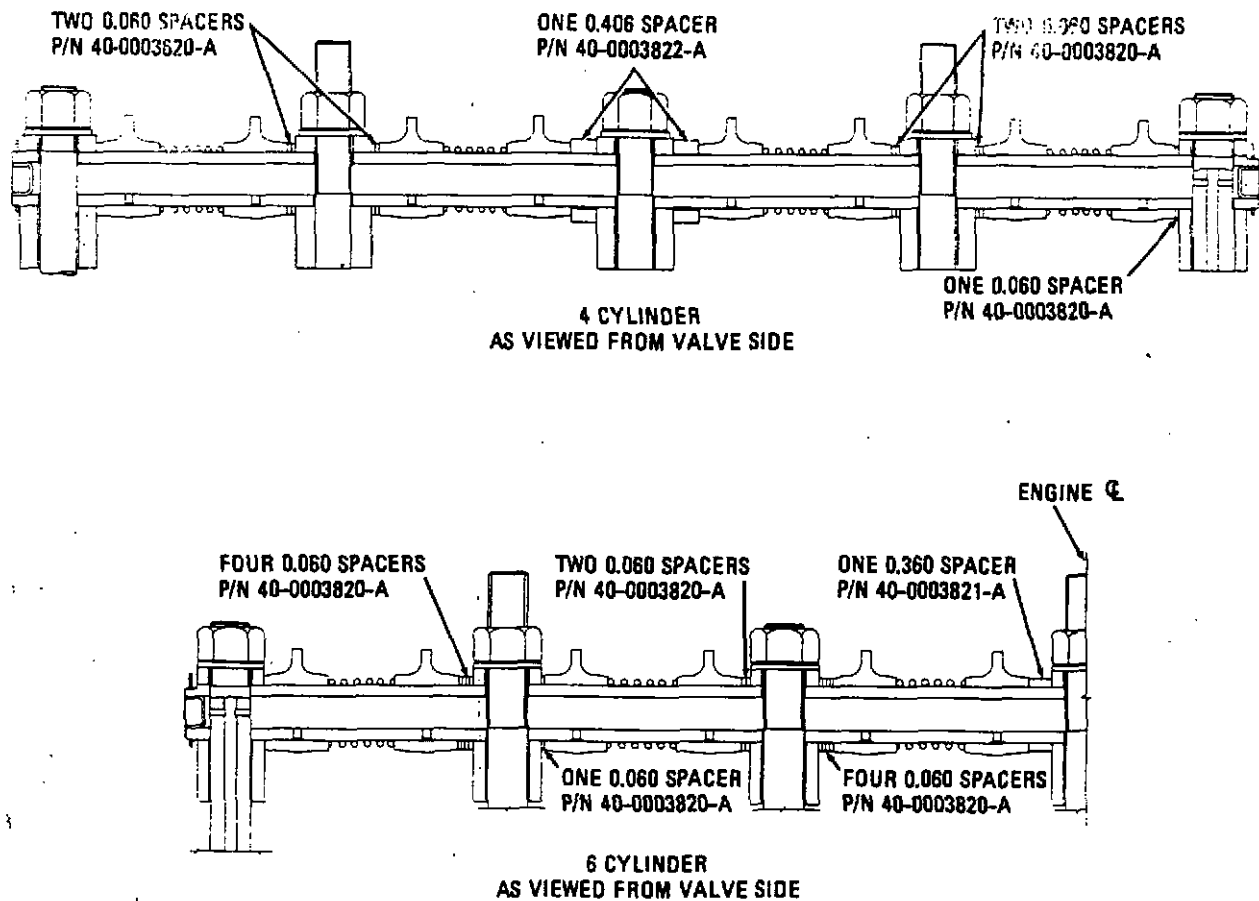
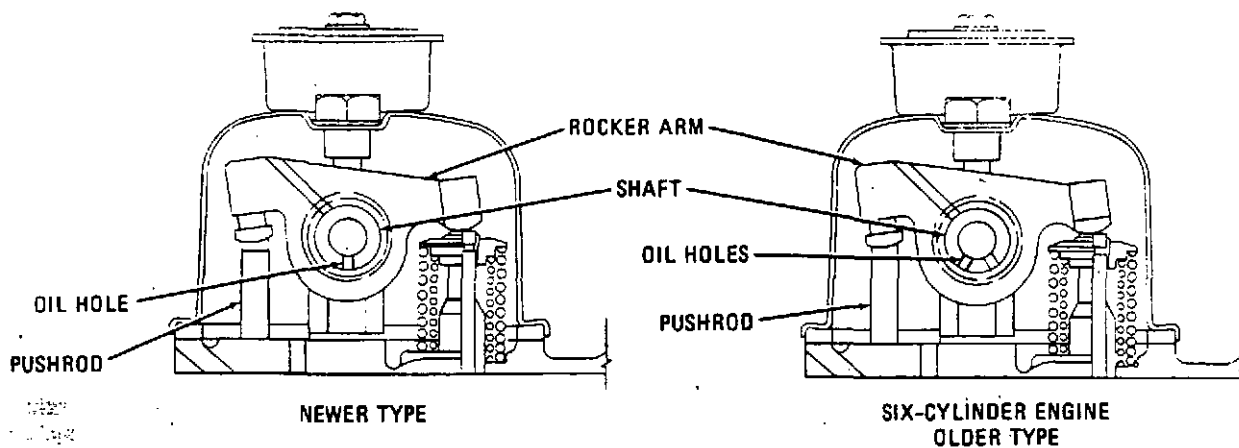
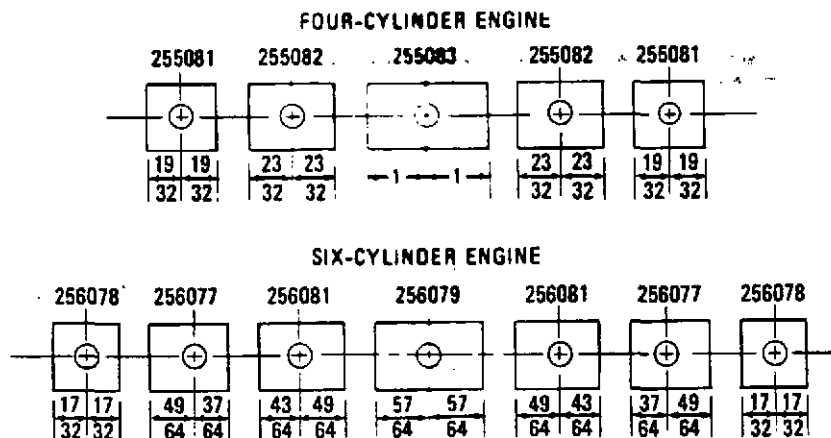

Figure 5-20. Rocker Arm Shaft Showing Spacer Positions for Engines Having Identically Sized Shaft Supports
Figure 5-21. Rocker Arm Shaft Showing Oil Hole Positions
Figure 5-22. Rocker Arm Shaft Support Installation for Engines Having Variable Sized Supports
1. Coat the rocker arm shaft (23) lightly with clean lubricating oil. Slide the shaft supports (18), rocker arms (19), spacing springs (20), and spacers (21 and 22) onto the rocker arm shaft. Install the spacers on the shaft of engine models that use them, as indicated in figure 5-20. On the four-cylinder engines, make
certain that the oil holes in the shaft face downward and toward the camshaft side of the engine, as shown in figure 5-21. On older type G-Series engines, there are two oil holes for each rocker arm and they must face downward as shown in figure 5-21. Newer type rocker arms shown on figure 5-20 have only one mounting hole which must be assembled downward. On older G-Series engines, the shaft supports (18, figure 5-19) vary in size and mounting hole location and must be assembled exactly as shown in figure 5-22. Install the retaining rings (17, figure 5-19) on each end of the rocker arm shaft.